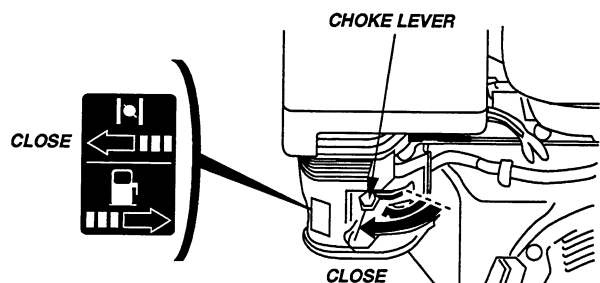

FIGURE 4-5. FUEL/CHOKE
**Fuel Valve:** Controls fuel flow to engine. Setting fuel valve to Open position allows fuel to flow to engine. Set fuel valve to Closed position when generator set is not in use. Refer to Fig 4-5.
**Choke Lever:** Restricts air flow to the carburetor for starting a cold engine. Refer to Fig 4-5.